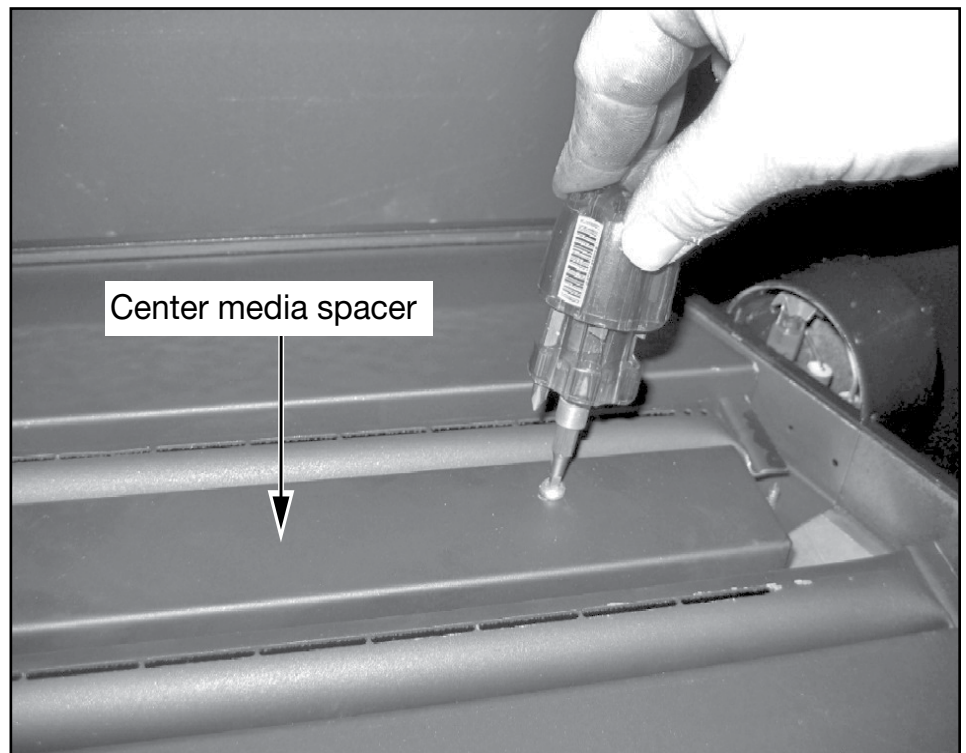

Figure 15: Center media spacer.
14. Install the center media spacer and secure spacer to the tray with the two long screws provided. (Figure 15).